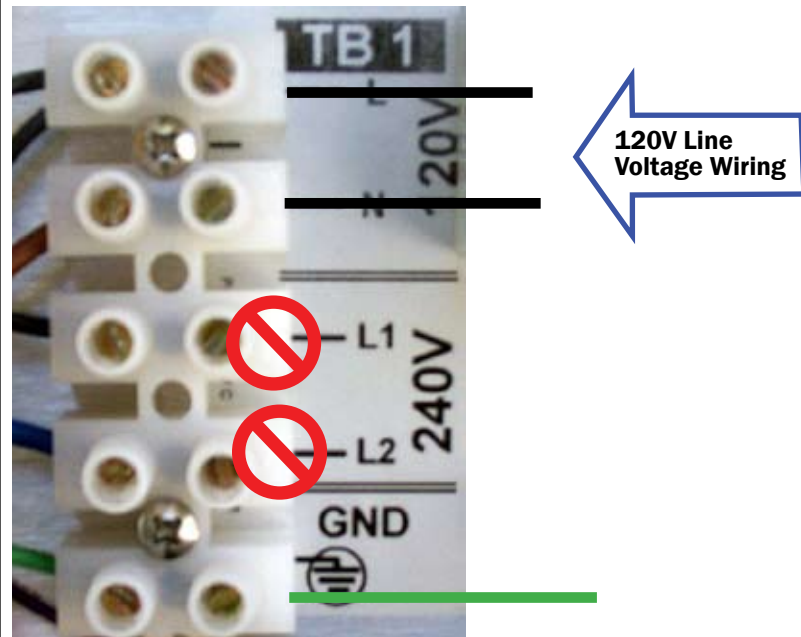
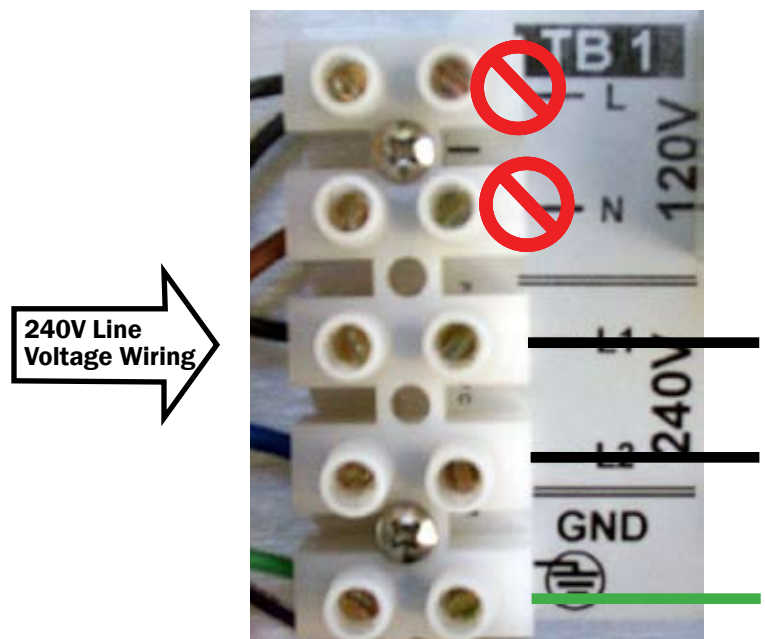

Figure 3 Terminal Block 120V Configurations
Figure 4 Terminal Block 240V Configurations
**Step 4** - Remove the front display plate by pulling off the **Chlorine Control Knob** and unscrewing four (4) Phillips head 6-32 screws. Locate the terminal block (TB-1).
**Step 6** - Connect the main wires to TB-1 as shown in **Figure 3** for 120V installations or **Figure 4** for 240V installations.
**Step 7** - Connect the local common bonding grid in the area of the swimming pool, spa or hot tub to the bonding lug (on the left exterior of the unit) with an insulated or bare solid copper conductor not smaller than 8 AWG (US) or 6 AWG (Canada). For other countries, refer to applicable electrical codes.
**Step 8** - Attach the front display plate with the four (4) Phillips head 6-32 screws. Replace the **Chlorine Control Knob** onto the extended "D" control shaft. Ensure that the ON/OFF switch is in the "OFF" position. Close and latch the clear cover.